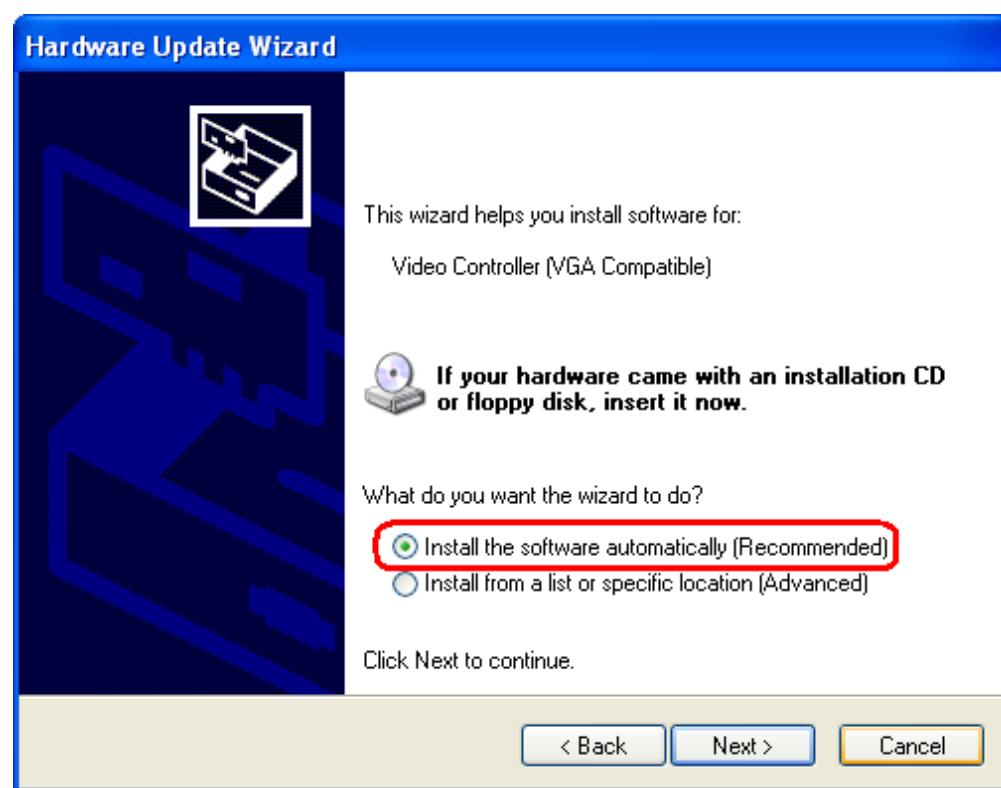

Figure 7-10: VGA Driver Installation Start
Step 19: The screen in **Figure 7-10** appears.
Step 20: Select the recommended option in **Figure 7-10**.